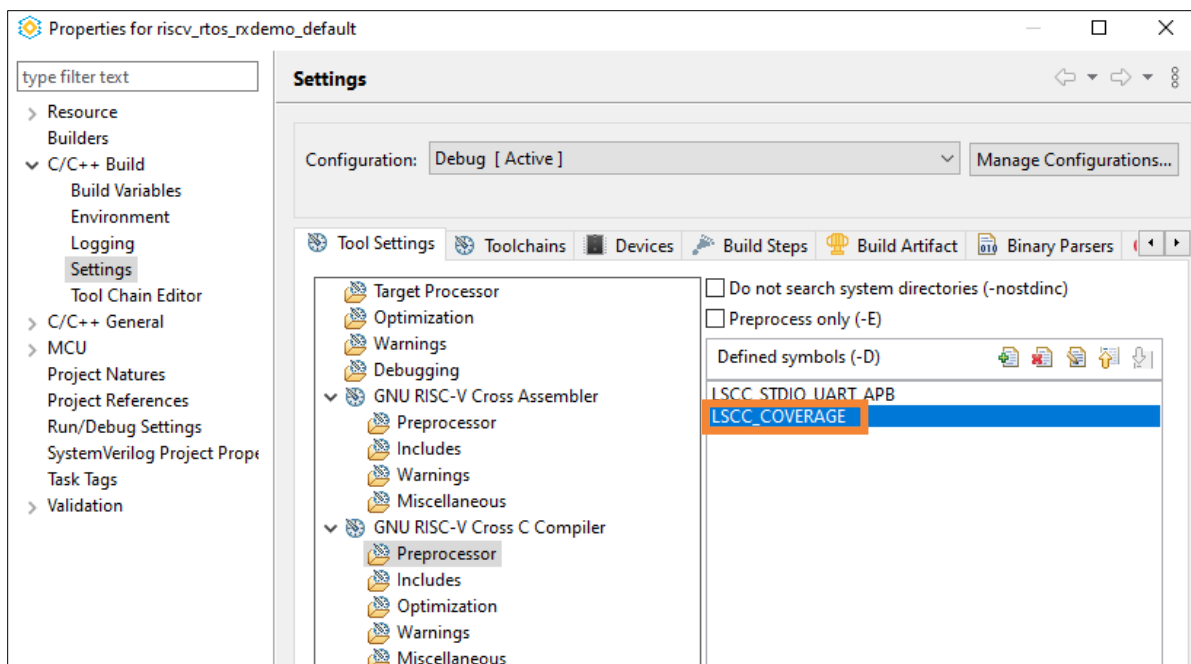

Figure 5.25. LSCC\_COVERAGE Symbol
3. Select **GNU RISC-V Cross C Compiler > Preprocessor**. Add the defined symbol, `LSCC_COVERAGE` (Figure 5.25).